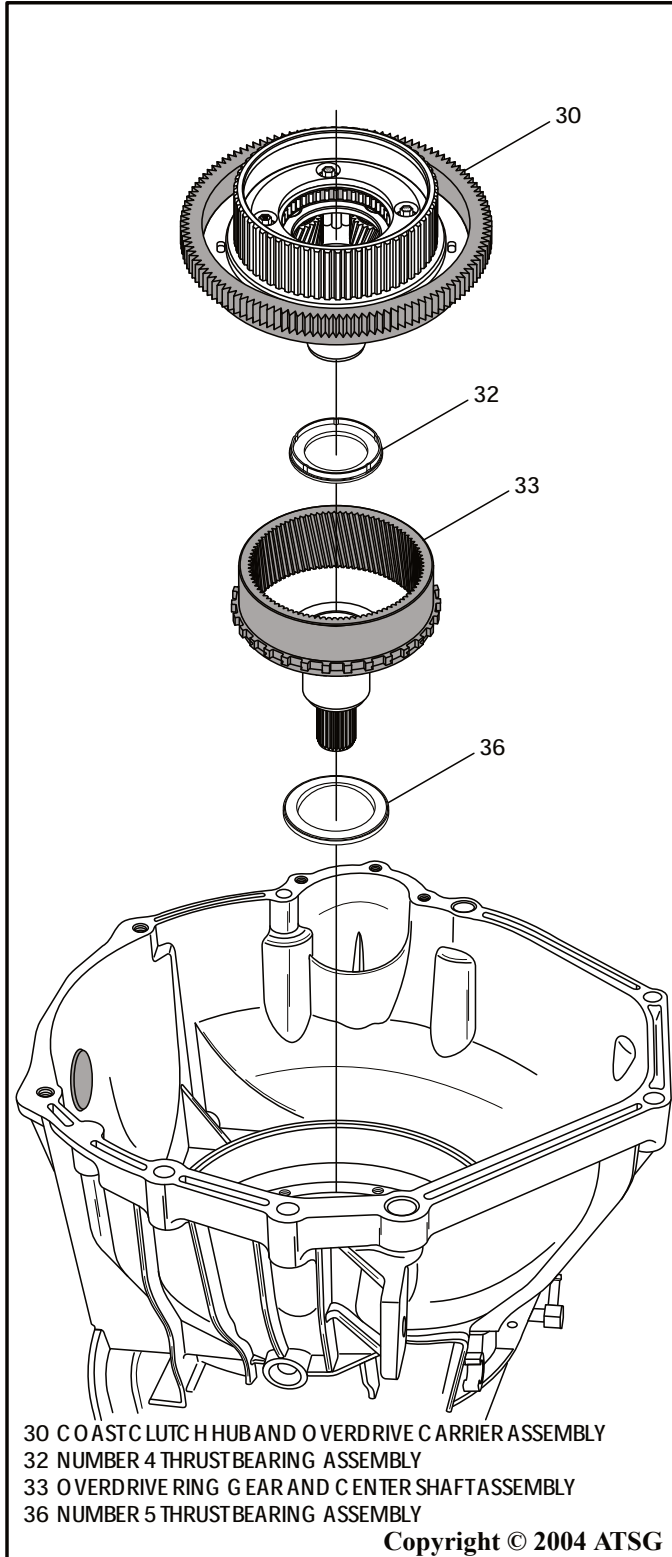

Figure 41
34. Remove the coast clutch hub and overdrive carrier assembly, as shown in Figure 41, by lifting straight up.
Note: "PTO" version illustrated in Figure 41.
35. Remove the number 4 thrust bearing, as shown in Figure 41.
36. Remove the overdrive ring gear and center shaft, as shown in Figure 41.
37. Remove the number 5 thrust bearing, as shown in Figure 41.